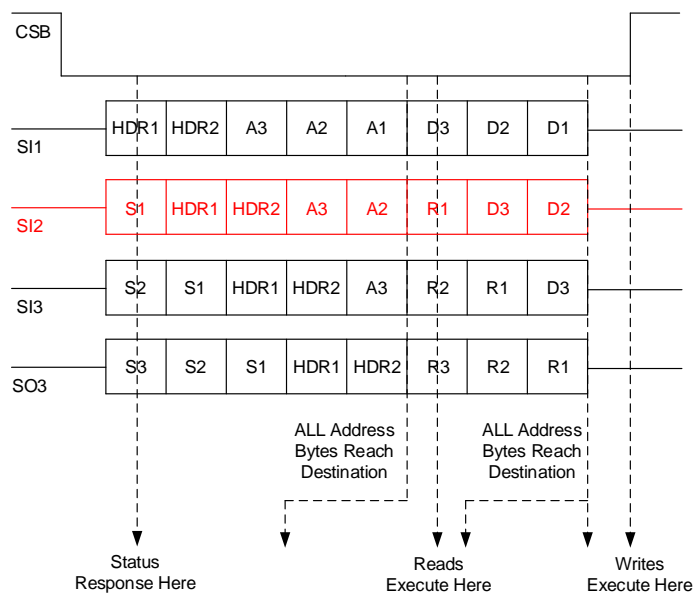

Figure 20. Daisy Chain SPI Operation
The device is designed to support daisy chain operation with other devices that utilize the same SPI protocol, as demonstrated in Figure 20. In this setup, the controller's output (MO) is connected to the serial input (SI) of the first peripheral device. The serial output (SO) of this device is then connected to the SI of the next peripheral, forming a chain. The SO of the last peripheral in the chain is linked to the controller's input (MI), completing the SPI communication loop.
In the daisy chain configuration depicted above, the first device in the chain receives data from the controller in the following format, as shown in SI1 of Figure 20:
Once the data has been transmitted through the chain, the controller receives it back in the format illustrated in SO3 of Figure 20:
The device is capable of determining its position in the chain by counting the number of Status bytes that follow the Header byte. As illustrated in Figure 20, Device 2 identifies its position by recognizing one Status byte (S_1) following the Header, while Device 3 identifies two Status bytes (S_1, S_2) behind the Header. When the device determines the position and the total number of devices connected in the chain, each device can load the relevant address and data bytes into its buffer, effectively bypassing irrelevant bits. This method ensures efficient operation, even in a chain comprising up to 63 devices.